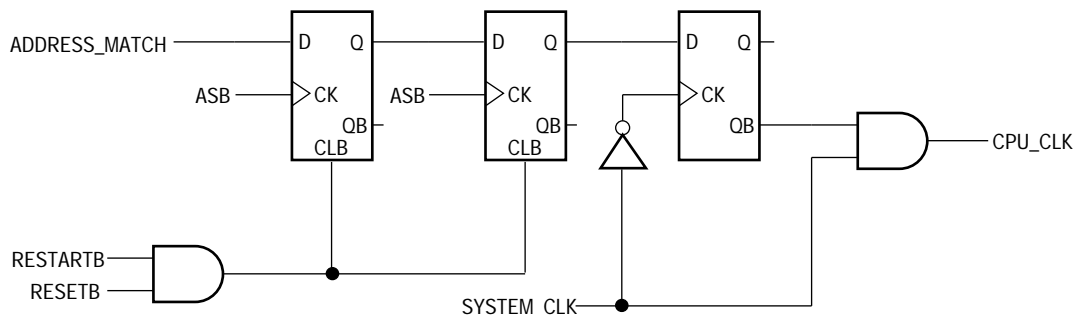
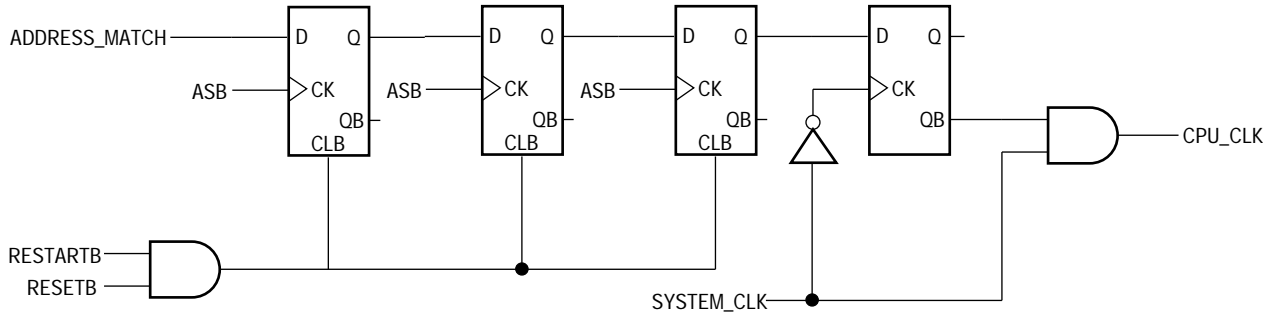
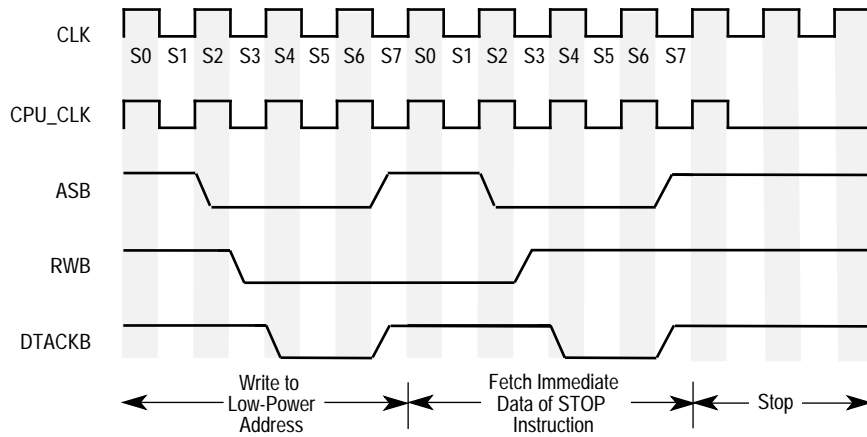

Figure 1. Low-Power Circuitry for 16-bit data bus
Figure 2. Low-Power Circuitry for 8-bit data bus
Figure 3. Clock Stop Timing for 16-bit Data Bus
- 1.) Externally detect a write to the low-power address. This address should be chosen by the user and can be any address in the 4 Gbyte addressing range of the SCM68000. A write to the low-power address can be detected by polling A31–A0, RWB, and FC2–FC0. When the low-power address is detected, RWB is a logic low, and the function codes have a five (101) on their output, then the processor is writing to the low-power address in supervisor mode and user-designed circuitry should assert the ADDRESS_MATCH signal shown in Figure 1 and Figure 2.
- Execute the STOP instruction. The external circuitry shown in Figure 1 and Figure 2 will count the number of bus cycles starting with the write to the low-power address and will stop the processor's clock on the first falling edge of the system clock after the bus cycle that reads the immediate data of the STOP instruction. Figure 2 has one more flip-flop than Figure 1 because the SCM68000 in 8-bit mode requires two bus cycles to fetch the immediate data of the STOP instruction. After the processor's clock is disabled it is often desirable to disable the clock to other sections of the user's circuit. This can be done, but care must be taken to ensure that runt clocks and spurious glitches are not presented to the SCM68000. A timing diagram is shown in Figure 3.